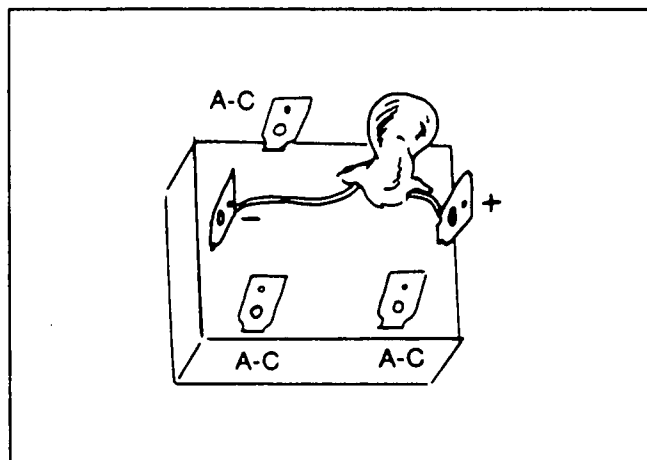

Figure 6. The Diode Bridge
2. Inspect wiring connections at the diode bridge. See Figure 6.